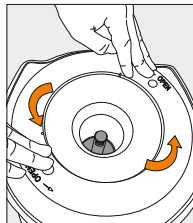
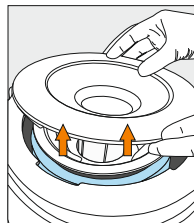

Figure 44
Figure 45
2. Loosen and remove the Outer DryGuard™ Cover from cooler's body by pressing the fingertips of both hands onto lid and turning it counter clockwise until it is free from the cooler opening (Figure 44 and Figure 45).